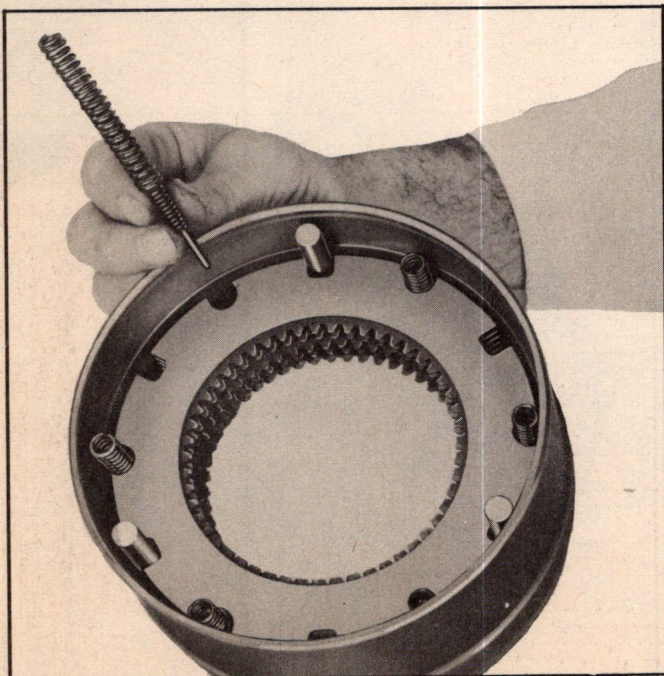

Fig. 141—Removing Clutch Release Springs and Guide Pins
5. Remove six inner and six outer clutch release springs and six guide pins (Fig. 141). Separate springs for inspection.